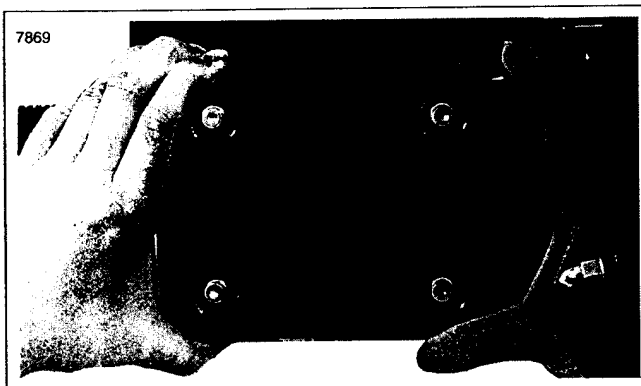

Figure 5-3. Removing/Installing Side Cover
3. See Figure 5-3. Firmly grasp both sides of cover and pull outward to remove.
4. See Figure 5-3. Grasp both sides of cover and push firmly into top plate.